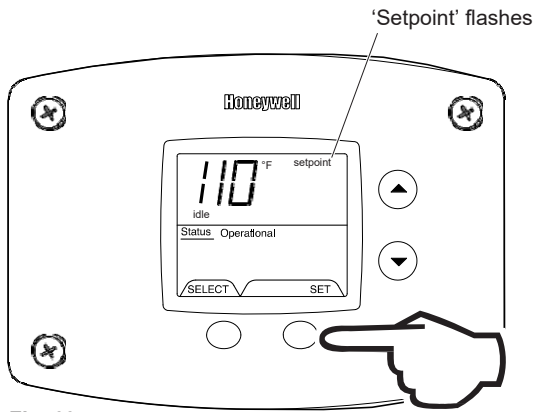

Fig. 63
4. To lower the temperature setpoint, press the 'Temperature Down' button until the desired temperature is shown on the water heater display (Fig. 63).